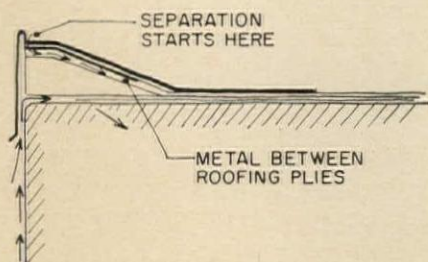

Figure 4
6. The placing of metal down a wall or parapet and square out under or between plies of roofing as a part of a gravel stop (Figure 4) is also a well-known, oldtime practice that is sure to cause leakage. This leakage is made possible by the destruction of the adhesive bond of roofing to metal by contraction during cold nights. Also, beads of water often form on the metal where the rough-cut roofing abuts it. The use of non-hardening